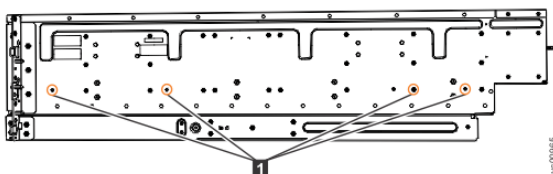

Figure 45. Screw locations to attach the inner rail to the enclosure
4. Use four M4 screws to attach the inner rail to the side of the enclosure. Figure 45 on page 86 shows the screw locations.